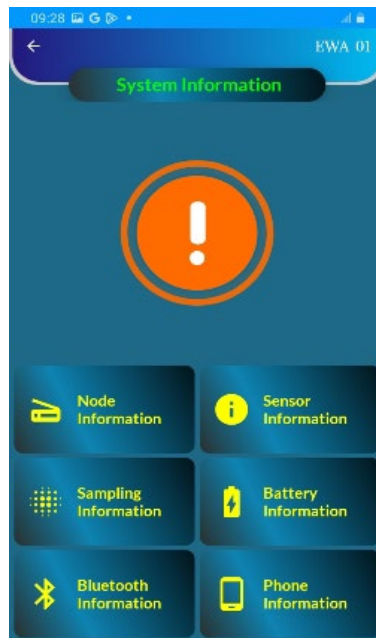

Figure 6-19 System information
- Click on the "System Information" tab from the main menu. A window as shown in the figure 6-19 will be displayed. User can click on any tab to see the related information.